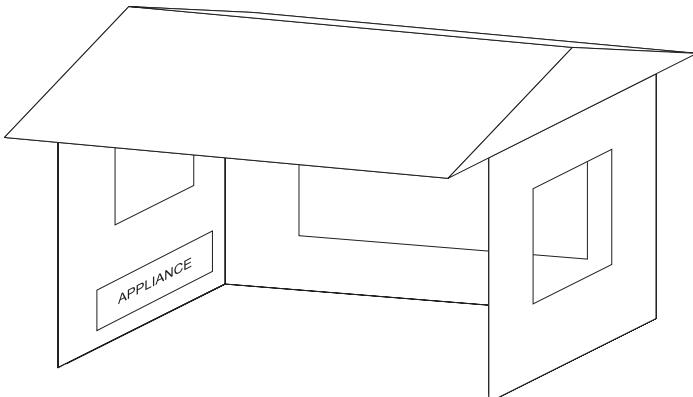

Figure 8
- Within a partial enclosure that includes an overhead cover and three side walls, as long as 30 percent or more of the horizontal periphery (perimeter of walls and open side) of the enclosure is permanently open. **See Figure 8.**